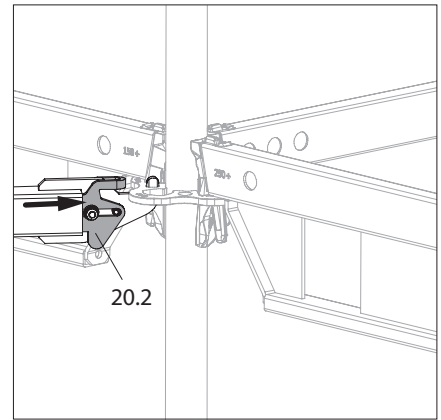

Fig. A4.02d
- 3. Push the slider in the direction of the rosette until the locking pin (20.3) falls into the longitudinal groove. (Fig. A4.02d – A4.02f)